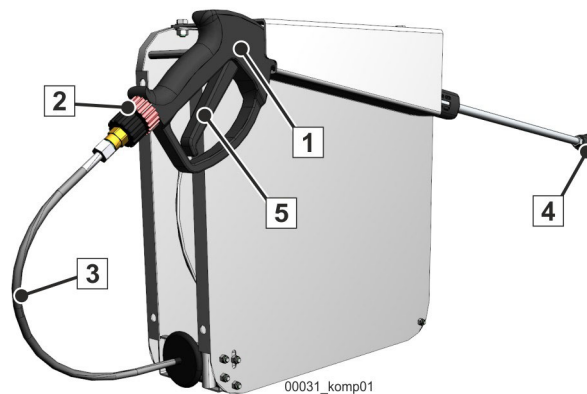

Fig. 423
- Make sure the spray lance trigger operates smoothly and resets on its own (5) (**Fig. 423**), and ensure that the pump shuts down automatically.